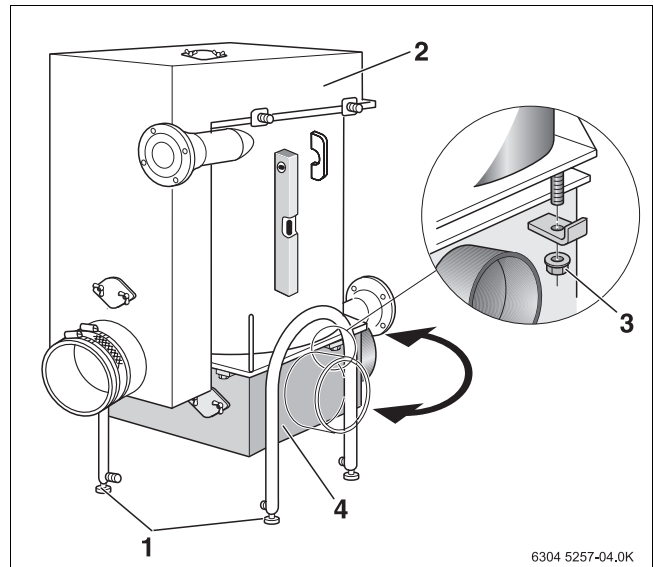

Fig. 5 Rotating the flue gas header through 90°
- To ensure satisfactory ventilation, tilt the flue gas heat exchanger backwards slightly using the adjustable feet (→ Fig. 5).